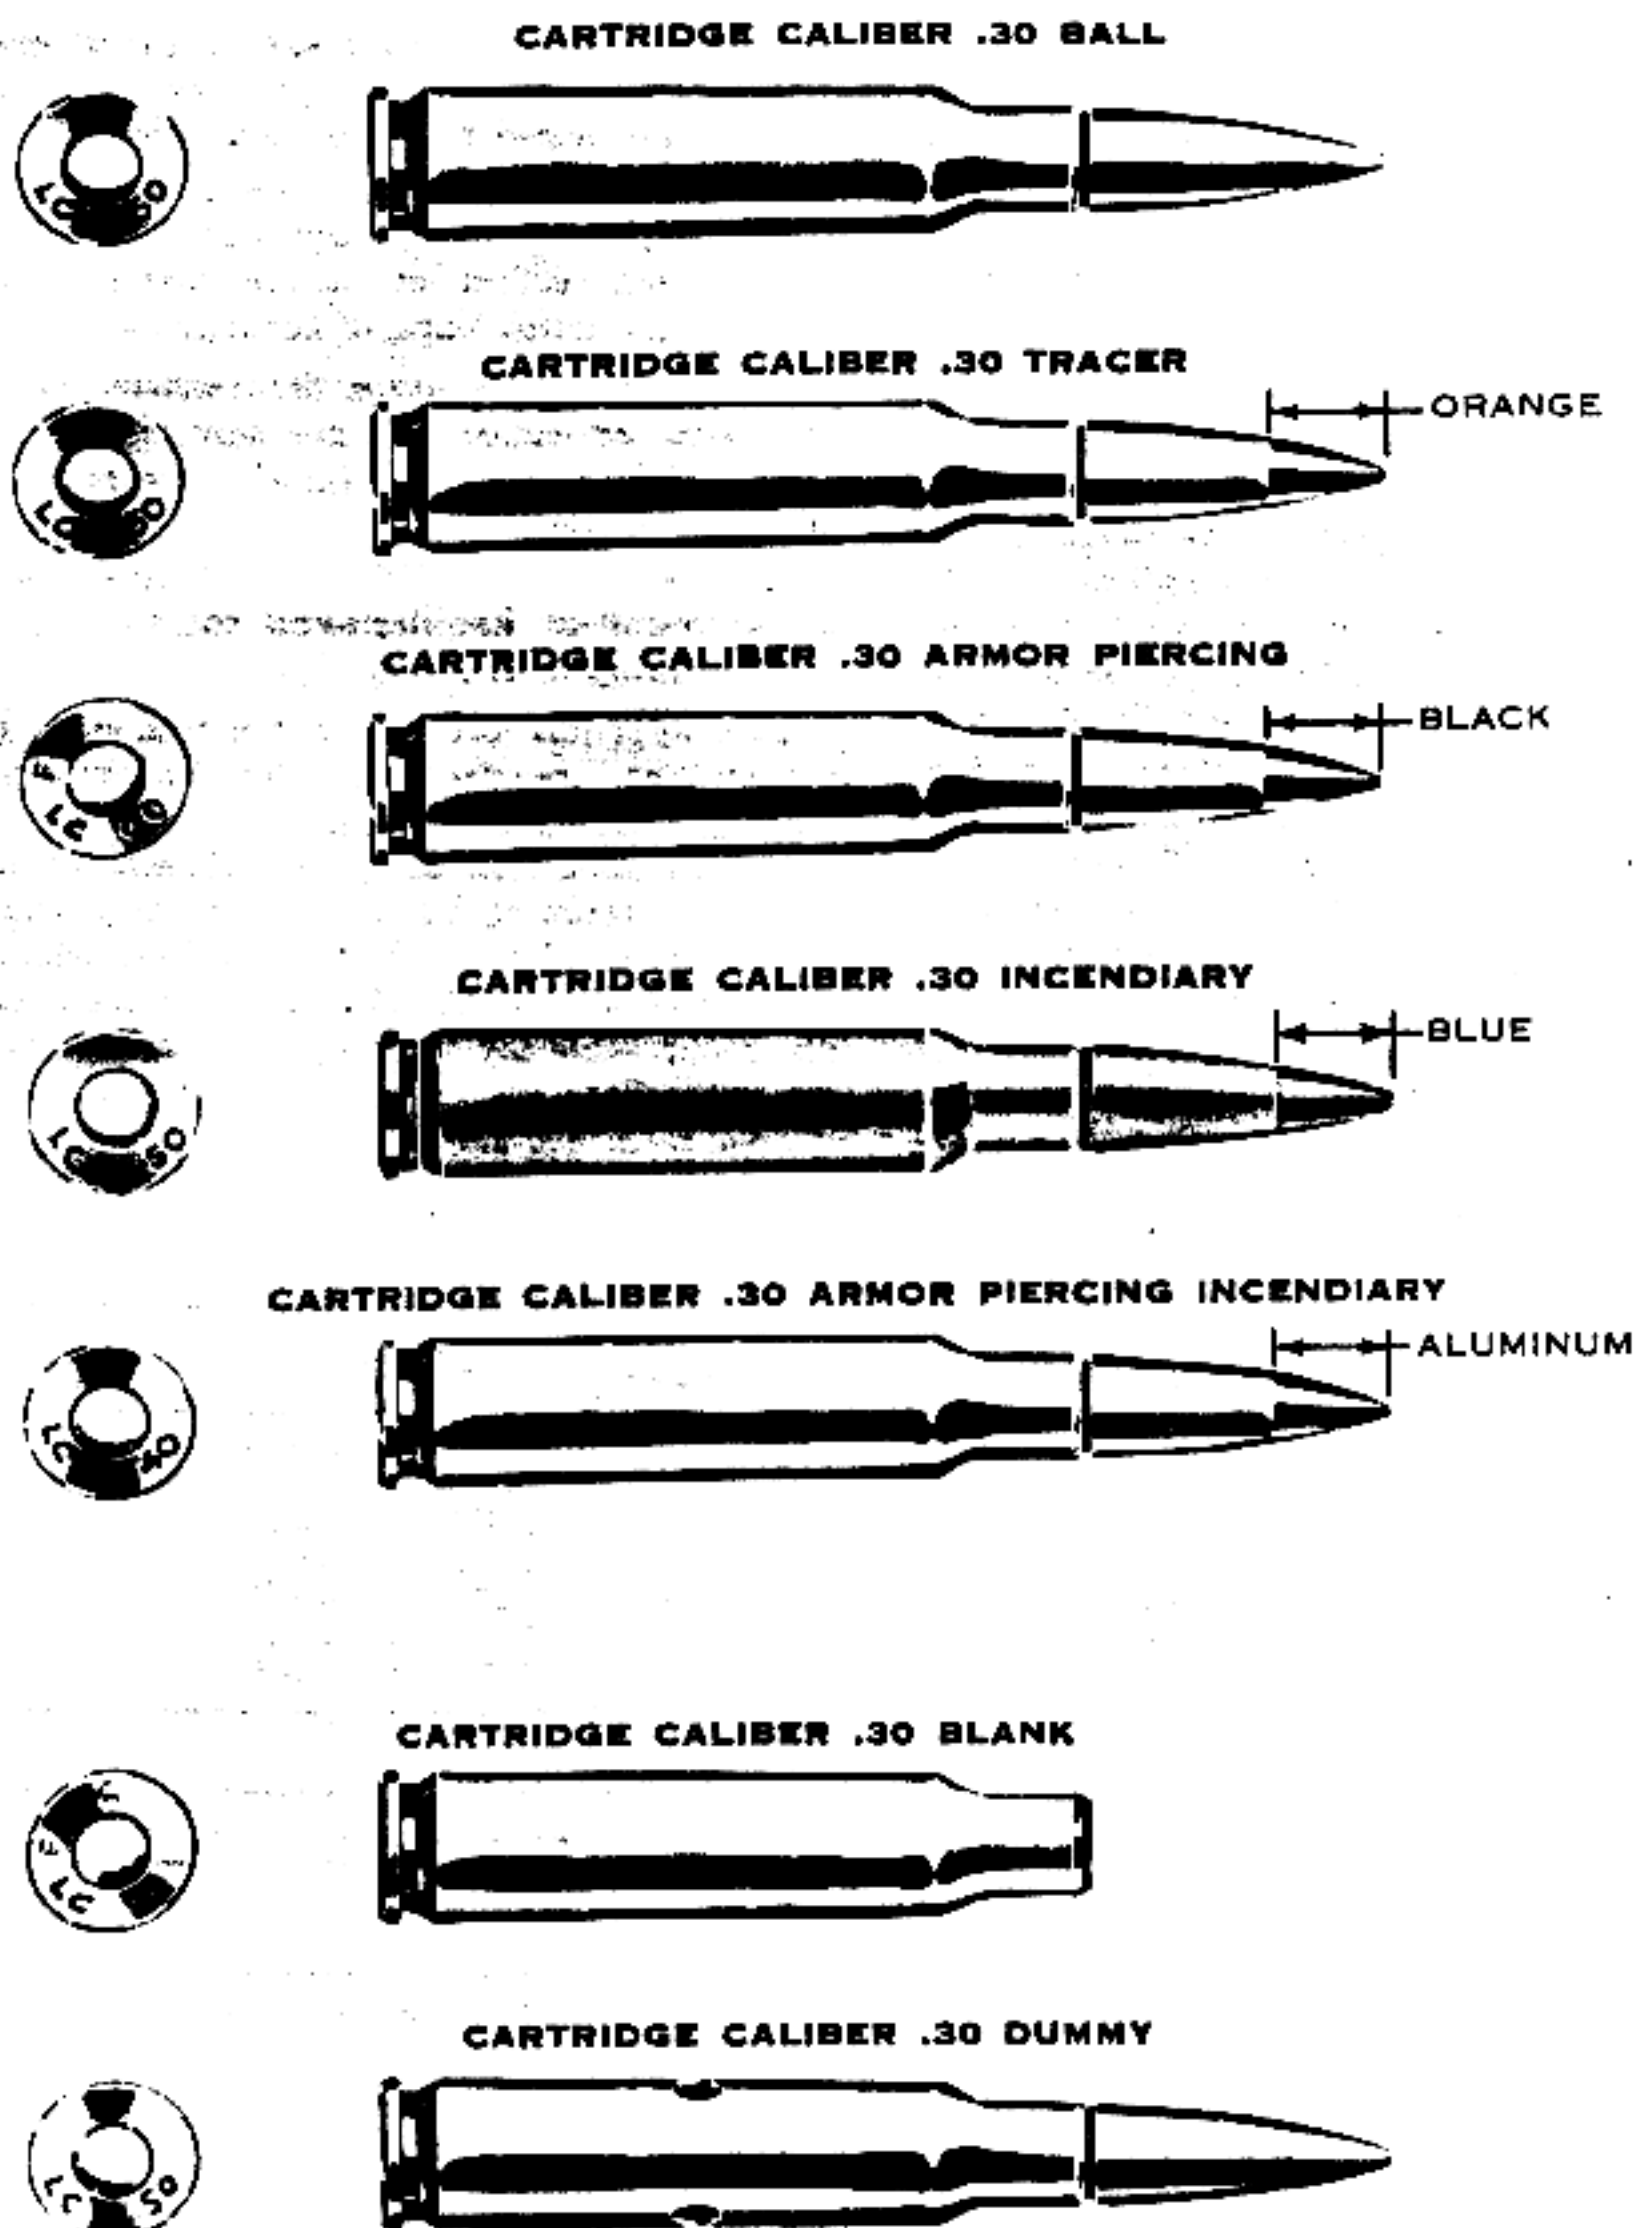

Figure 102. Ammunition characteristics.
- (1) The type, caliber, model, and ammunition lot number, including the symbol of the manufacturer, are necessary for complete identification of small arms ammunition. The caliber .30 cartridges are completely identifiable by their appearance, the painting of the projectile tips, the stamping of the manufacturer's initials and year of manufacture on the base of the cartridge cases, and the markings on the packing containers.
- (2) When removed from their original packing containers, the cartridges may be identified by physical characteristics as follows (fig. 102):